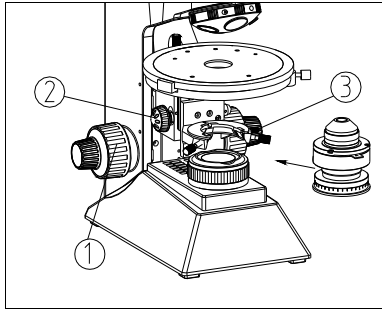

Fig. 5
- Rotate the coarse focusing knob to raise stage to the highest level. (Fig.5)